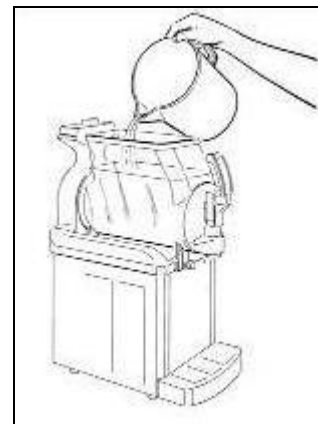

Fig. 11
- Pour lukewarm water into the bowl (fig.11) and, after re-positioning the main cover, make the scraper auger rotating for some minutes.